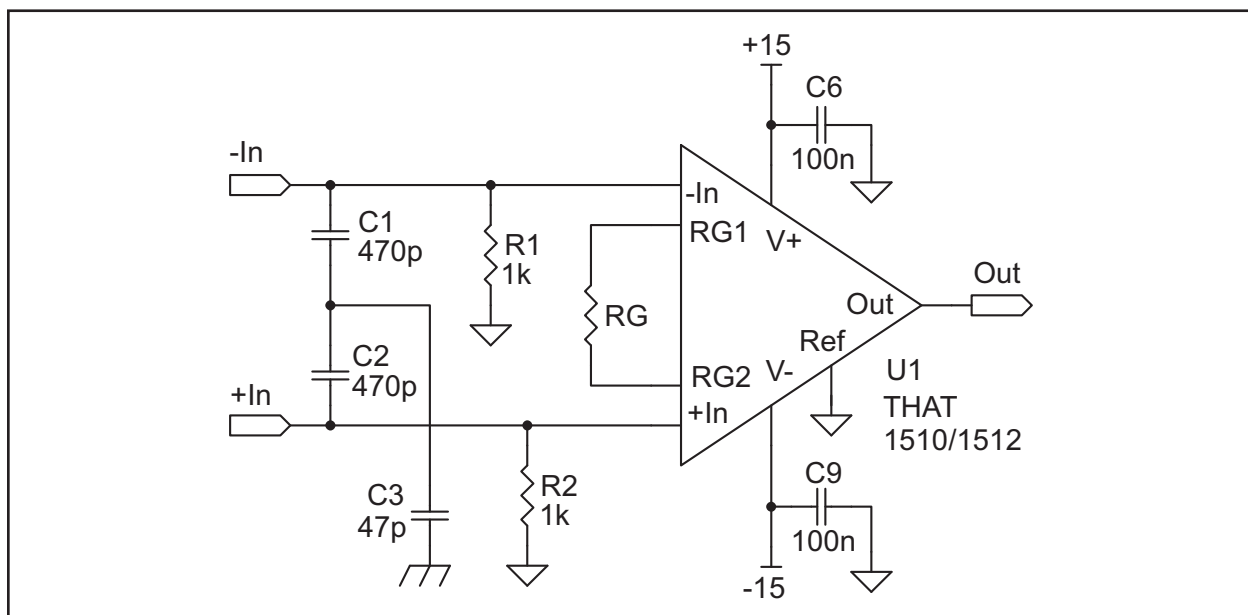
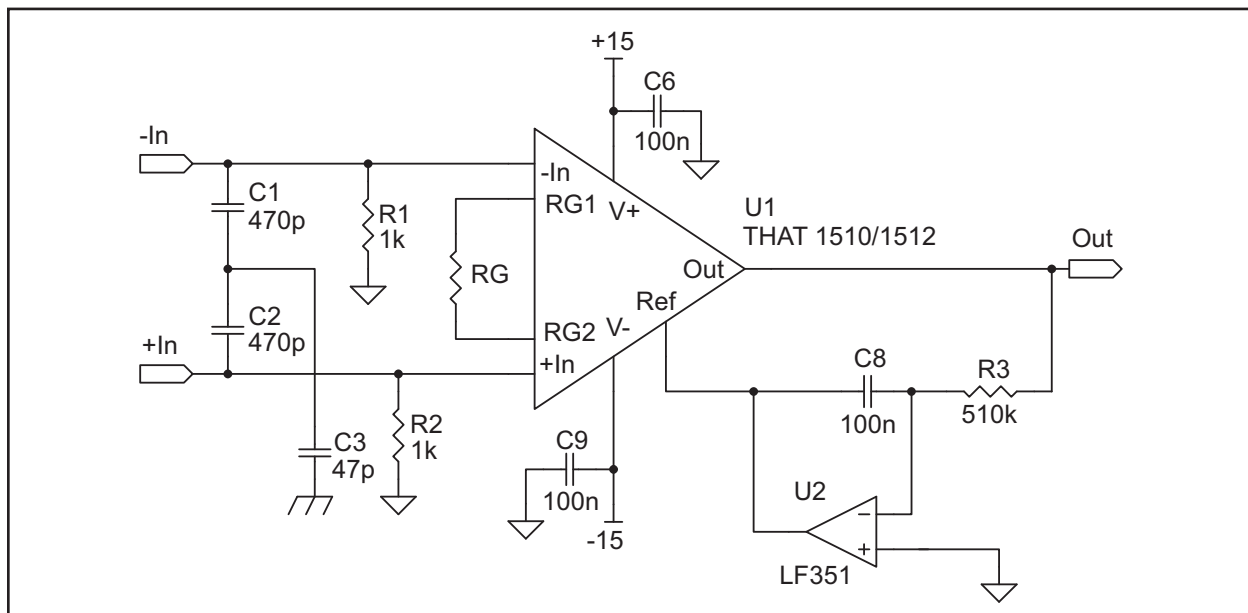
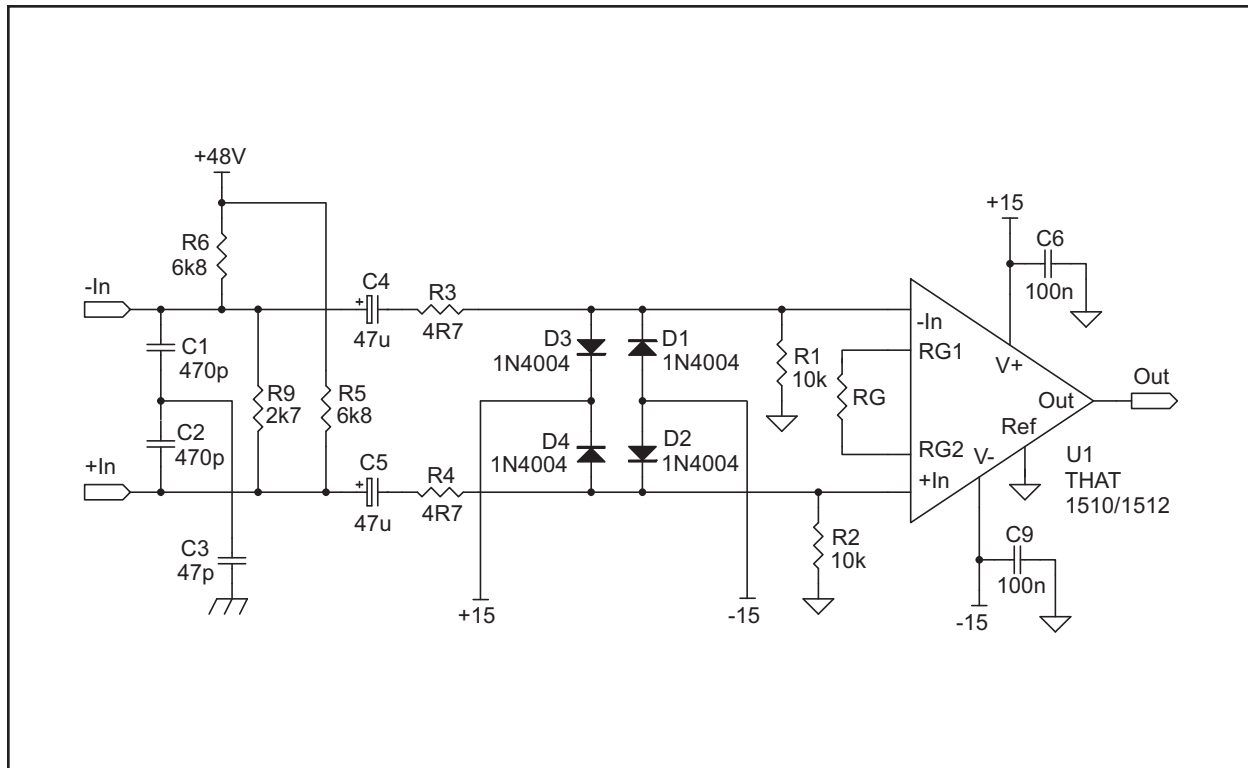

Figure 2. Basic 1510 / 1512 Circuit
Figure 3. 1510 / 1512 Circuit with Output Offset Servo
Figure 4. Recommended 1510 / 1512 Circuit with Phantom Power
Other than the connection to the protection diodes, the 1510/1512 input pins are connected only to the bases of their respective input devices. For proper operation, the bases must be provided a source of dc bias that will maintain the inputs within the IC's input common-mode range. Two different schemes for this are shown in Figures 2 and 3. Figure 2 is simple, but its output will need to be ac-coupled to the next stage, particularly if  $R_G$  is variable to allow gain adjustment. Figure 3 shows the addition of an integrator to servo the output offset. In this circuit, the output offset will depend on that of the external opamp U2, which may be small enough to avoid ac-coupling the output.
Phantom power is required for many condenser microphones. THAT recommends the circuit of Figure 4 when phantom power is included3. R3 and R4 are used to limit the current that flows through the bridge circuit of D1 through D4 when C4 and C5 are discharged after being charged to 48V from the phantom voltage supply. R3 and R4 should be kept very small as shown in order to introduce minimal additional noise. C4 and C5 should be kept large to minimize high-pass filtering of the signal, and to avoid amplification of low-frequency current noise in the 1510/1512 input stage.
Other manufacturers have recommended, and many pro audio products include, a zener diode arrangement connected to the bridge rectifier instead of the connection to V+ and V- as shown in Figure 4. While this arrangement does not keep the inputs inside the common mode range, it has the advantage of working even when the power is off. For further insights into this subject, see the Audio Engineering Society preprint "The 48 Volt Phantom Menace," by Gary K. Hebert and Frank W. Thomas, presented at the 110th AES Convention.
A higher common-mode input impedance may be desirable (compared with that of Figures 2 and 3), especially when a mic pre-amp input is configured to double as a line receiver. The circuit of Figure 4 also accommodates this objective. In this circuit, R1 and R2 are increased to 10k $\Omega$ , boosting the low-frequency common-mode input impedance from 500  $\Omega$  to about 2 k $\Omega$ . A value of 2.7 k $\Omega$  for R9 keeps the differential input impedance at 2 k $\Omega$  without reducing the common-mode input impedance.
5.1 k $\Omega$  resistors from the line input's + and - input terminals to the positive and negative inputs, respectively, of the 1510/1512 of Figure 4. This increases the differential line input impedance to  $\sim$ 12.2 k $\Omega$ , and results in a net attenuation (pad) of approximately 15.7 dB between the line input and the output shown in Figure 4. Since, in many pro audio applications, the minimum pre-amp gain is 10 dB, the pad effectively cancels out this minimum gain while adding an additional 6dB of attenuation, which allows the resulting line input to accommodate high line level signals.